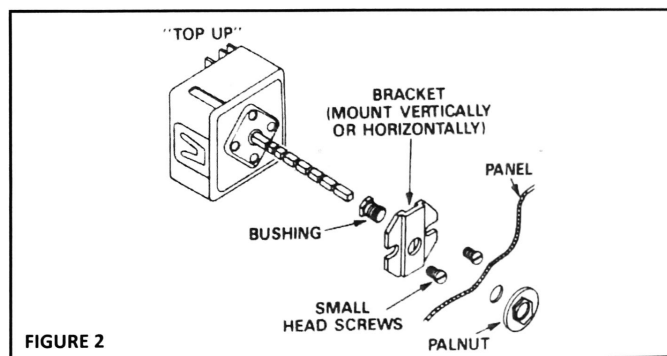
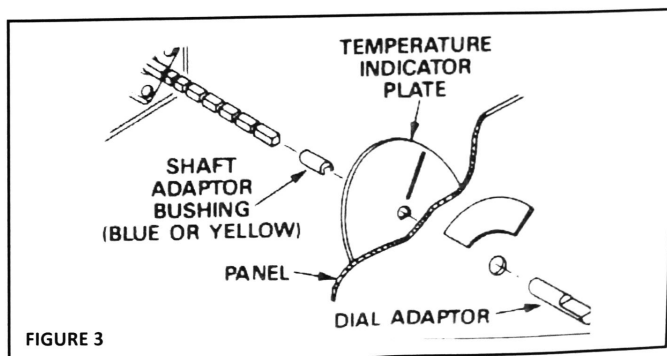

FIGURE 2
FIGURE 3
1. Determine mounting type, screw (figure 1) or nut (figure 2), and mount control accordingly. If temperature indicator plate is used refer to figure 3.